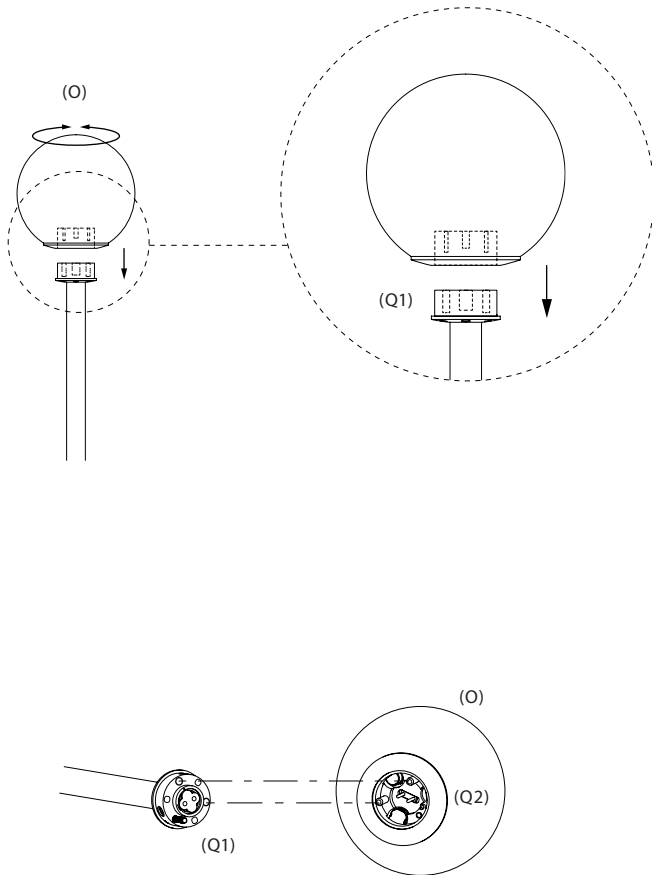

Fig. 16
Again, on a soft surface, using gloves, secure the Small Glass Sphere 1 (O) onto the Lamp Body 2 (P). Carefully rotate the Small Glass Sphere 1 (O) onto the Small Male Glass Connector (Q1) until the internal location pins are aligned. Gently push the Small Glass Sphere 1 (O) onto the pins until the outside faces of the Small Female Glass Connector (Q2) and Small Male Glass Connector (Q1) sit flush. Secure the Small Globe with the supplied M2×8 screw, ensuring it is tight. See Fig.15 and Fig. 16.